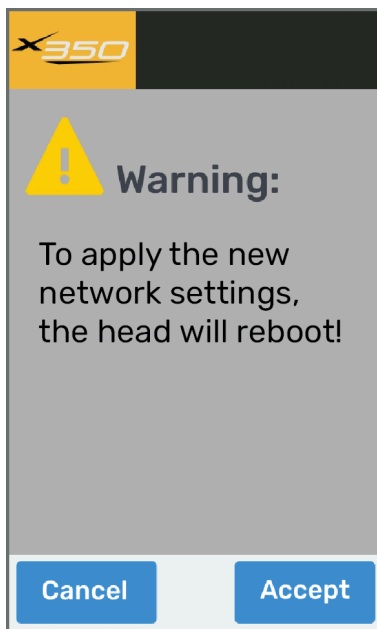

Figure 4.21 — Warning Message (Head Will Reboot)
- A **Warning** message appears, to inform you that the head will reboot (Figure 4.21).